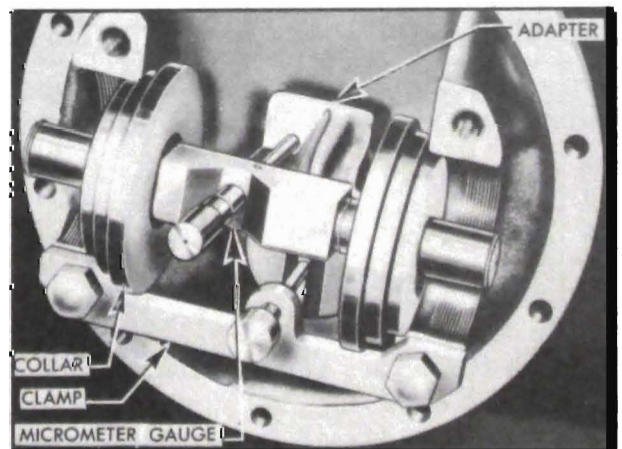

Figure 5-25—Pinion Setting Gauge Installed
2. Install adapter with clamp, and the micrometer gauge as shown in figure 5-25. The adapter must be firmly held against the pinion